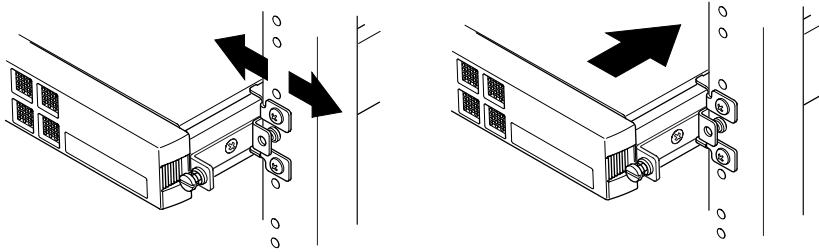

FIGURE 5-8 Adjusting the Slide Mounts and Screwing the Server Into the Rack
8. **Align the thumbscrews on the sides of the server with the slide mounts in the rack (see FIGURE 5-8).**